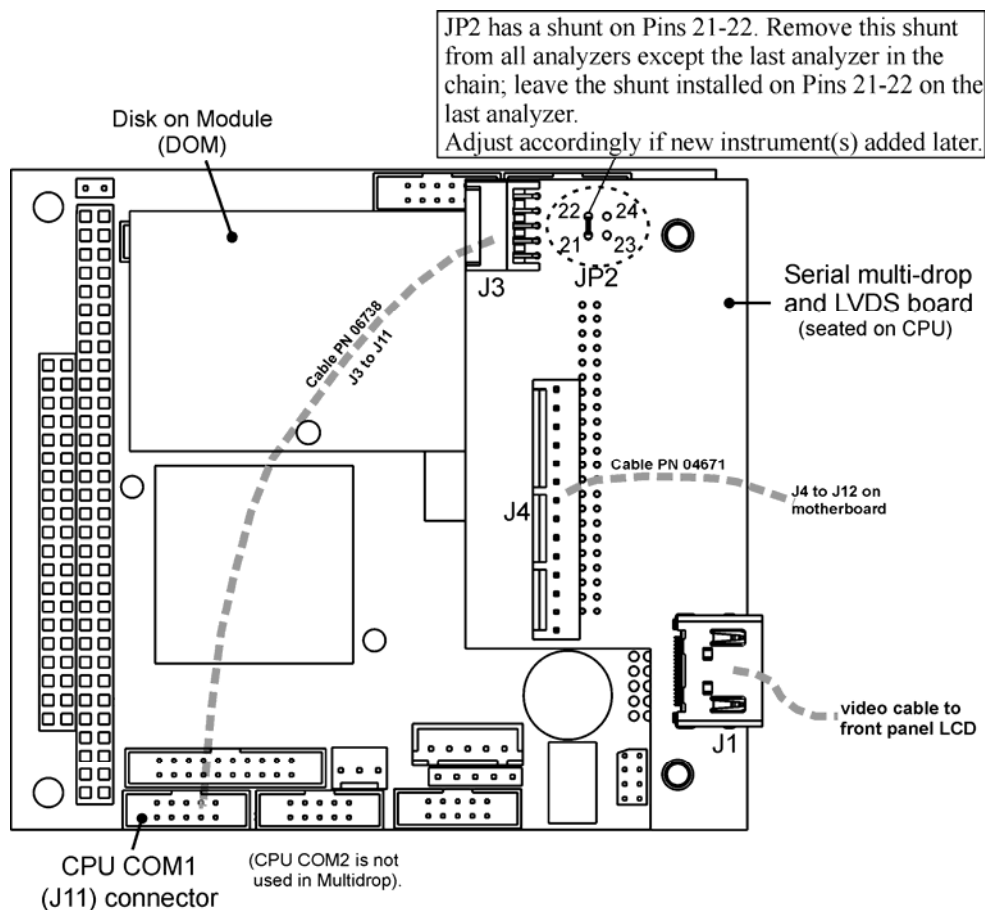

Figure 3-15: Jumper and Cables for Multidrop Mode
In each instrument with the Multidrop option there is a shunt jumpering two pins on the serial Multidrop and LVDS printed circuit assembly (PCA), as shown in Figure 3-15. This shunt must be removed from all instruments except that designated as last in the multidrop chain, which must remain terminated. This requires powering off and opening each instrument and making the following adjustments:
3. Check that the following cable connections are made in all instruments (again refer to Figure 3-15):